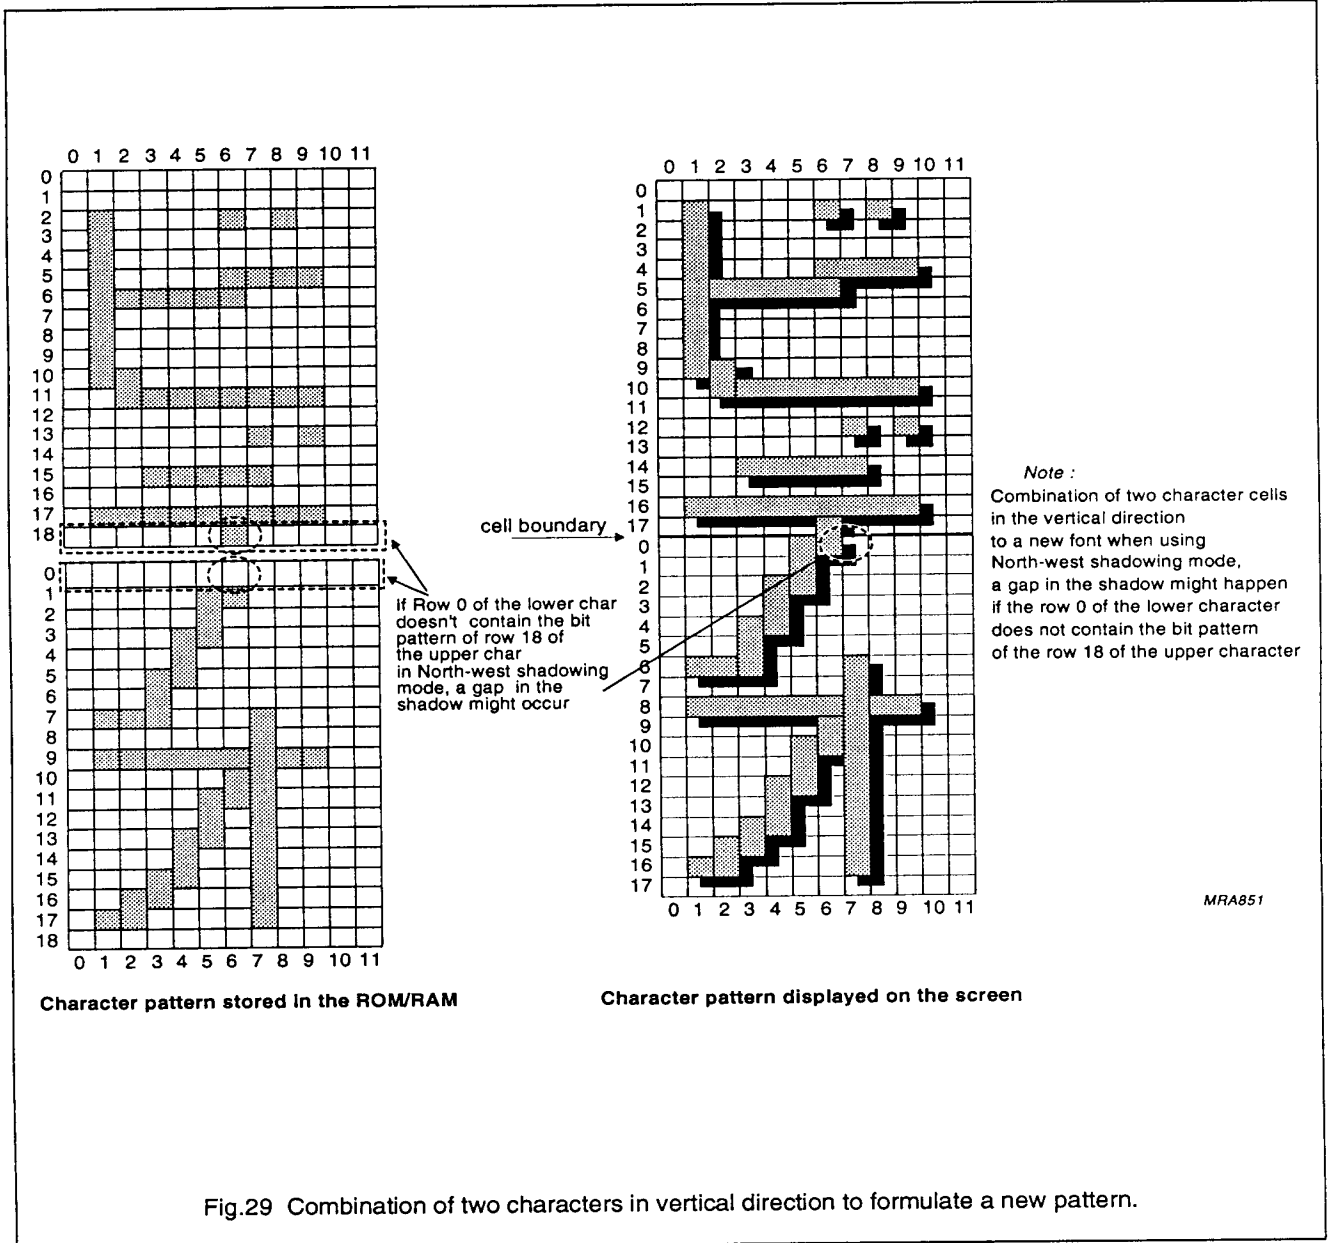

Fig.29 Combination of two characters in vertical direction to formulate a new pattern.
- Row 0 is reserved for use only in the north-west shadowing mode (details see section 8.2 command 8). It is when two characters are combined in vertical direction to formulate a new pattern, this row 0 contains the bit pattern of row 18 of the character above it. See (Figs.29 and 30).